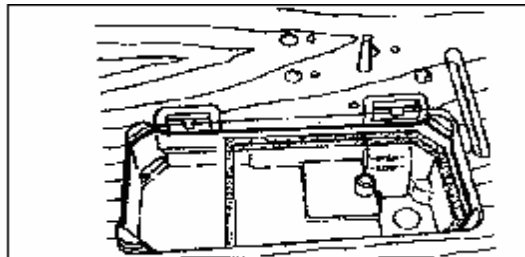
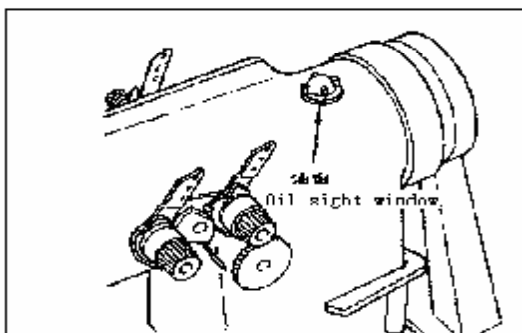

图2 Fig.2
图3 Fig.3
五、加油(图2. 图3)
1. 向油盘内加缝纫机油(10号白油)至HIGH记号部位(图2).
3. 加油后开动机器, 润滑正常时, 应看到油液喷到油窗上(图3). 至于喷到油窗上的油量多少与总油量的多少无关, 所以不必担心.
5、Oiling (Figs.2 and 3)
1. Oiling shall be made in oil reservoir and the oil surface also be made to level the mark "High" before the machine is started running (Fig.2)
2. Oiling shall be kept on until the oil surface has been brought above the mark "Low"(Fig.3)